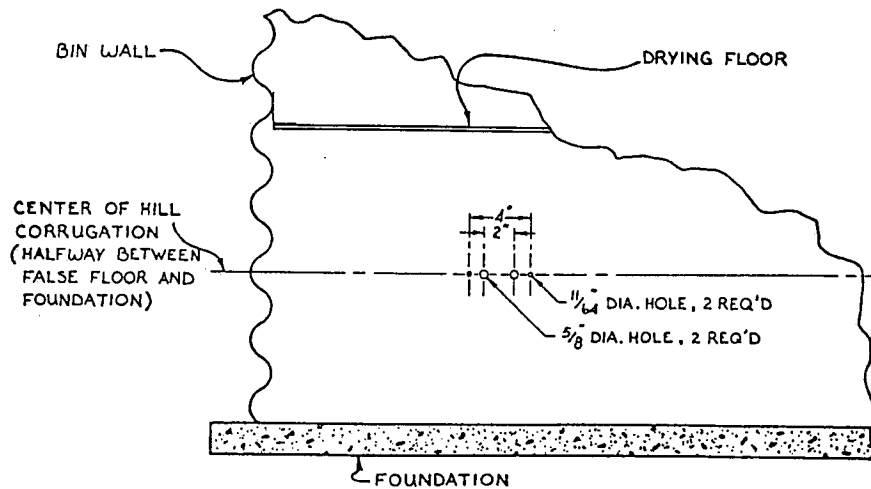

FIGURE 2. LOCATION OF MOUNTING HOLES FOR HUMIDISTAT/THERMOSTAT CONTROL
2. Remove lid from control. Use control box as drilling jig and drill two 11/64" holes for mounting the control box. On the same hill of the corrugation drill two 5/8" diameter holes as shown on Figure 2 of this installation instruction.